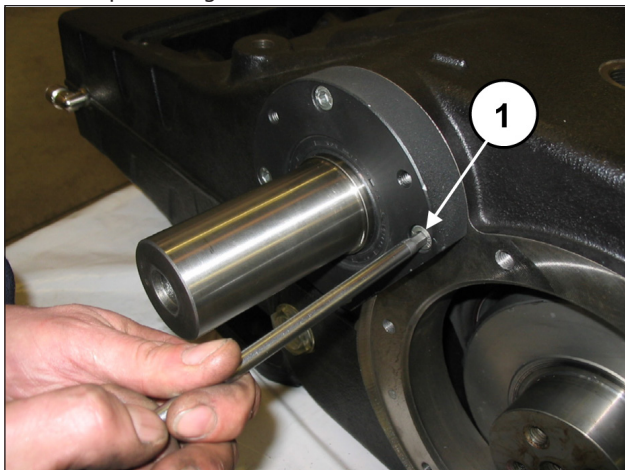
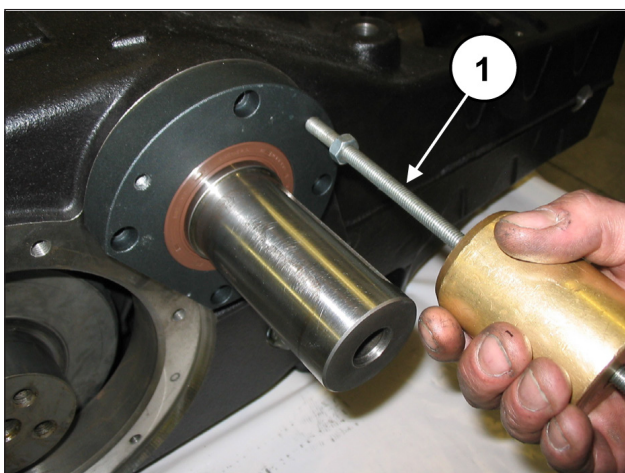

Fig. 27
Fig. 28
Unscrew the attachment screws of the left and right PTO bearing cover (pos. ①, Fig. 27) and take the two covers off the PTO shaft. To help with their removal, use 3 x M8 grub screws or screws (pos. ①, Fig. 28) as extractors.